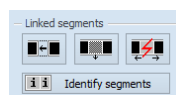

Figure 135 – Linked segments section of the Define layout tool
2. Press the  button on the second tab (the  icon) of the tools panel (see Figure 135).
1. Press the  button on the second tab (the  icon) of the tools panel (see Figure 135).